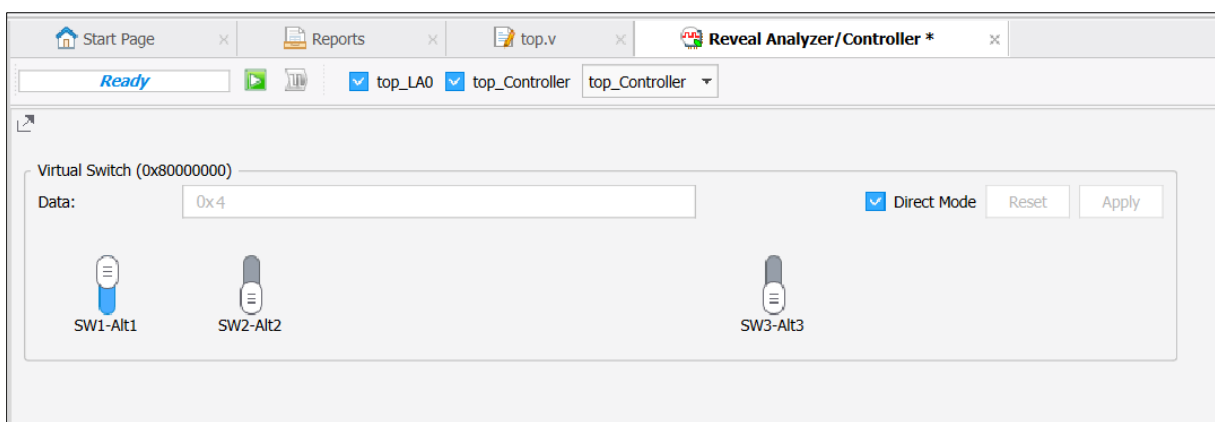

Figure 7.6. Toggle SW1-Alt1
4. Toggle SW1-Alt1 (Figure 7.6).